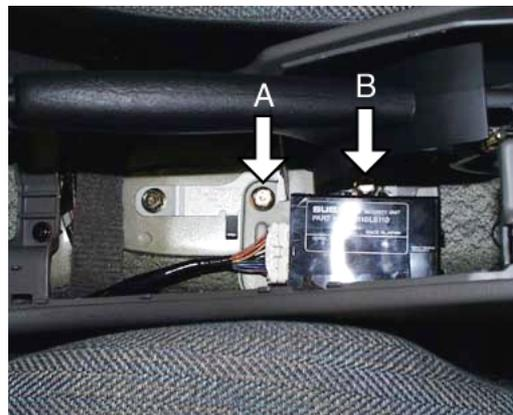

Figure 6
8. Install the security module onto the bolt indicated by the arrow "B" which was loosened in step 5, then tighten the bolts indicated by the arrows "A" and "B" to  $13 \pm 3.6$  ft. lbs. Refer to Figure 6.